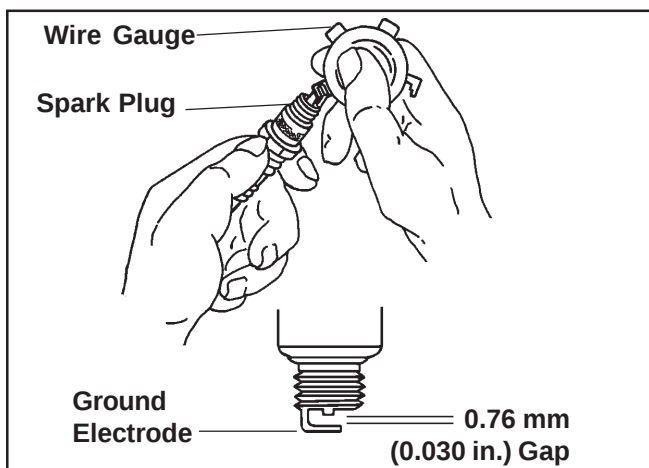

Figure 13. Servicing Spark Plug.
3. Check the gap using a wire feeler gauge. Adjust the gap to **0.76 mm (0.030 in.)** by carefully bending the ground electrode. See Figure 13.